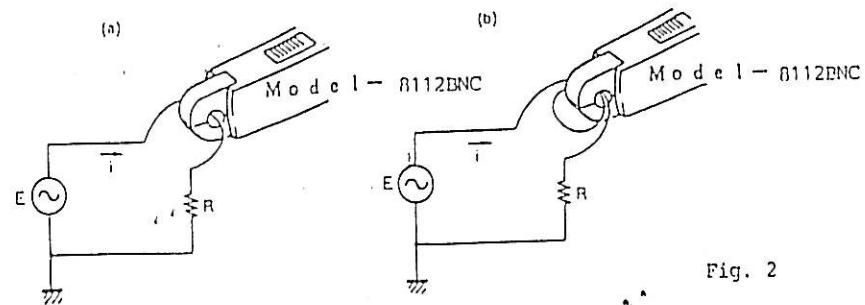

Fig. 2
(1) Connect the connector (4) of the adaptor to the vertical input terminal of the oscilloscope.
(2) Slide the knob (2) backward to open the jaws and clamp on a current carrying conductor (refer to Fig. 2). In example (a), output voltage selected by the range selector will be obtained. In case of (b), output voltage twice the value selected by the range selector will be obtained since two turns of the conductor is clamped as illustrated.
(3) Arrow mark on the jaws indicates polarity relative to the current flowing through the conductor. When the current flows in the arrowed direction, output will be positive (+).
(4) Select a desired range according to the current flowing through the conductor.
(5) Where the current waveform is affected by noise, clip the earth lead onto the earth terminal of the probe and connect it to the circuit under test.